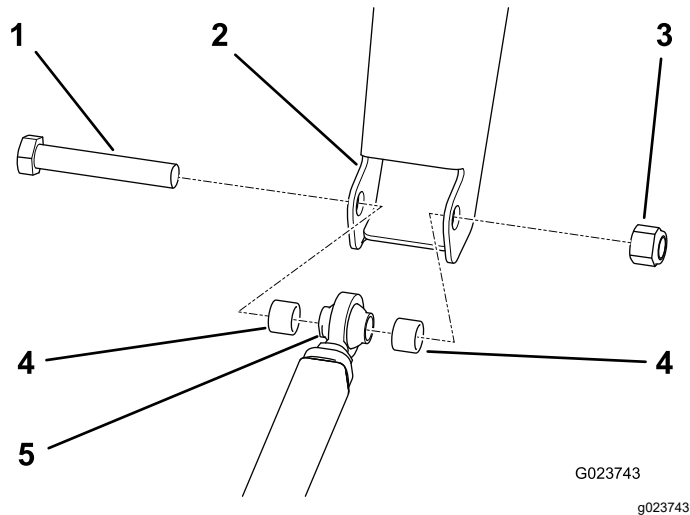

Figure 13
1. Align the rod end of the drawbar to the frame hitch (Figure 13).